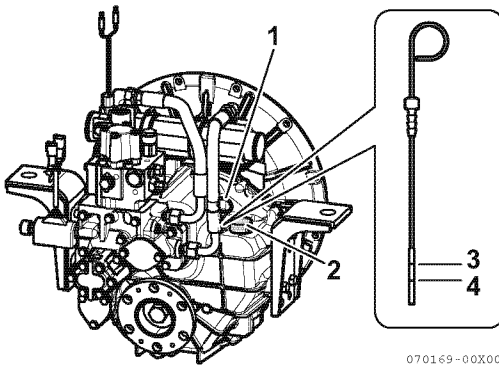

Figure 8
2. Remove the filler cap (**Figure 8, (2)**) at the top of the housing.
3. Remove dipstick (**Figure 8, (1)**) and wipe with clean cloth.
5. Remove dipstick. The oil level should be between upper (**Figure 8, (3)**) and lower (**Figure 8, (4)**) lines on the dipstick.
3. Fill with oil to the upper limit on the dipstick (**Figure 8, (3)**). *See Marine Gear Oil Specifications on page 31.*